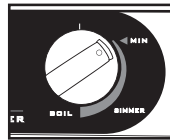

Fig. 6
1. Turn the Temperature Control knob to the MIN position. (Fig. 6) Press the switch to OFF and unplug the pasta cooker.